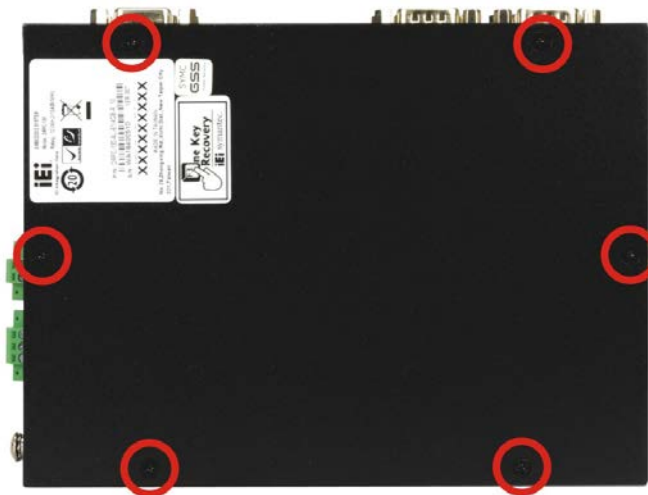

Figure 3-1: Internal Access Panel Retention Screws
Step 1: Remove the six retention screws indicated in **Figure 3-1**.
Step 2: Lift the panel. A SATA cable is attached inside the panel. Be gentle when lifting the panel (**Figure 3-1**).